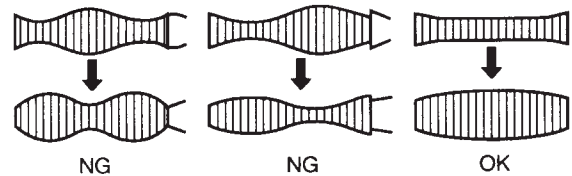

Fig. 7-3-7 Abnormal waveform variation
7. If the envelope varies like NG figures as shown in Fig. 7-3-7, perform the adjustment again. Smooth secondary curves are allowable level.